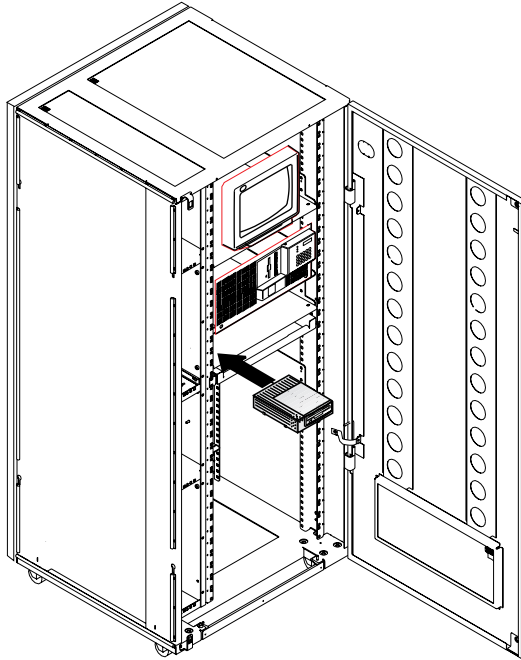

Figure 1-39. Installing the Optical Drive
17. ____ Install the optical disk drive in the controller expansion as shown in Figure 1-39, then **go to step 19** .